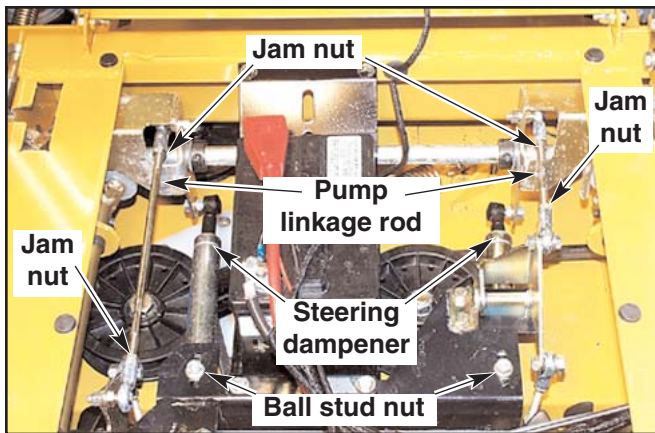

Figure 9-26
Fine adjustment to the unit's steering is made with the adjustable pump linkage rods. Fig. 9-26
3. Loosen the nut on the steering dampener's rear ball stud. Fig. 9-26
6. If wheel(s) are rotating forward, loosen the jam nuts on the pump linkage rods and rotate the rod to lengthen the steering control linkage until the wheel(s) come to a stop. Fig. 9-26
If wheel(s) are rotating in reverse then loosen the jam nuts on the pump linkage rods and rotate the rod to shorten the steering control linkage until the wheel(s) come to a stop. Fig. 9-26 Repeat for the opposite side if necessary.